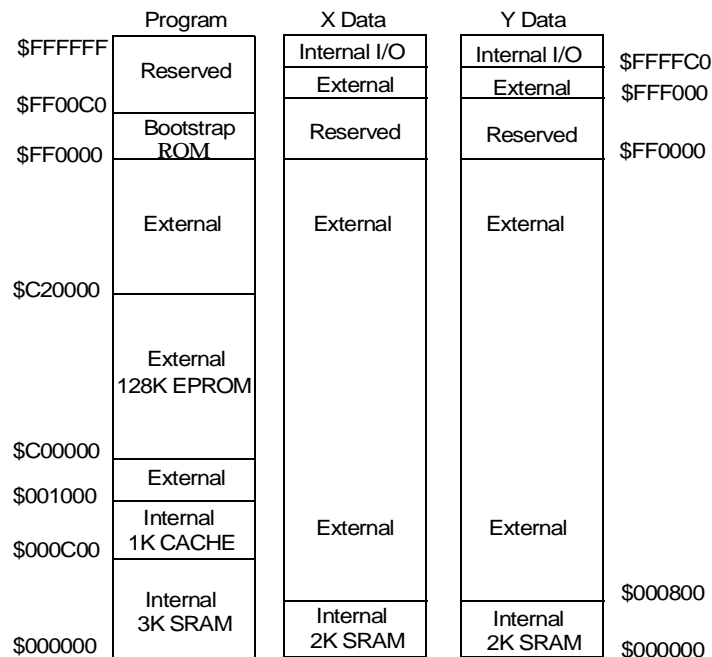
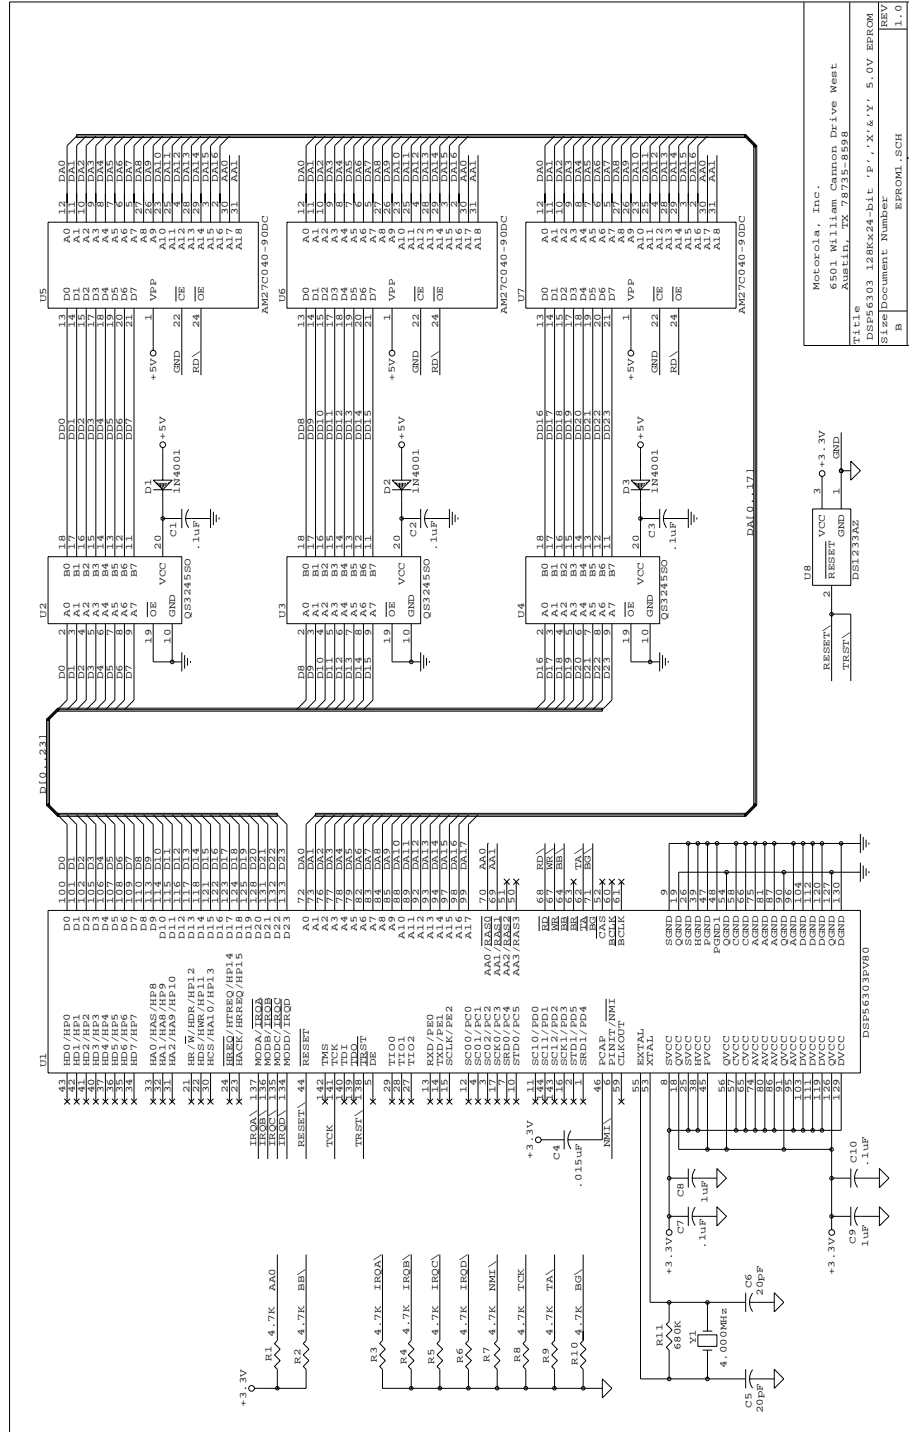

Figure 4-1. 128K x 24-bit BOOT EPROM Memory Map
Figure 4-5. 128Kx24 BOOT, 'P', 'X' and 'Y' Space EPROM Schematic
This section describes a 128K x 24-bit BOOT, 128K x 24-bit 'P', 128K x 24-bit 'X' and 128K x 24-bit 'Y' memory space, EPROM implementation using AMD's AM27C040 device (see **Figure 4-1** for BOOT memory map layout, **Figure 4-2** for user memory map layout, and **Figure 4-3** for the block diagram, and **Figure 4-1** for the address attribute associations for BOOT, Program, X-Data and Y-Data spaces). Since the EPROM is present in the DSP's program space, program control can be turned over to the program in the EPROM at Boot time. This allows an embedded application to boot and run from EPROM, permitting the DSP's internal 1K Cache to help speed repeated program functions. Also, since 'X' and 'Y' data space is available in the EPROM, program and data variables can be referenced after bootup.
requires 19 address lines to select all of its 512K memory locations, EPROM address line A18 is controlled by Address Attribute Line 1 (AA1) (see the memory space selection chart in **Figure 4-1**, the schematic in **Figure 4-5** and the program listed in **Example 4-1**). The EEPROM address line A17 which is controlled by Address Attribute Line 0 (AA0), selects the EEPROM used during X-Data or Y-Data accesses. Using these two (2) address attribute lines, the 512K x 24-bit EPROM memory bank can be segmented into four (4) regions of 128K x 24-bits each (see **Figure 4-1**). The program listed in **Example 4-1** initializes the address attribute registers and calculates a 24-bit checksum value for each of the four 128K EPROM memory spaces to compare with the checksum values stored in the last location of each 128K EPROM bank.